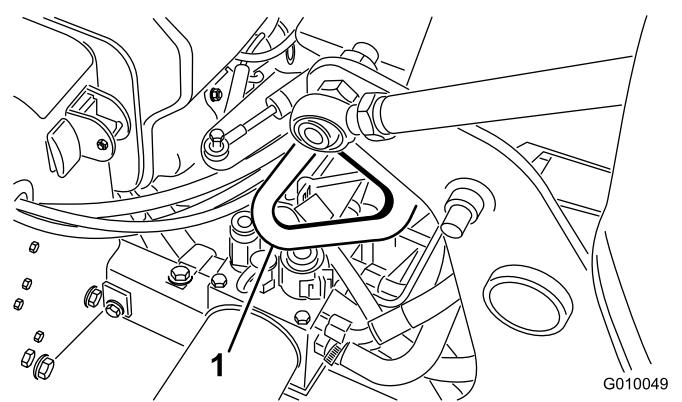

Figure 34
3. Securely fasten the aerator tie downs (Figure 32 through Figure 34) to the trailer or truck with straps, chains, cable, or ropes.